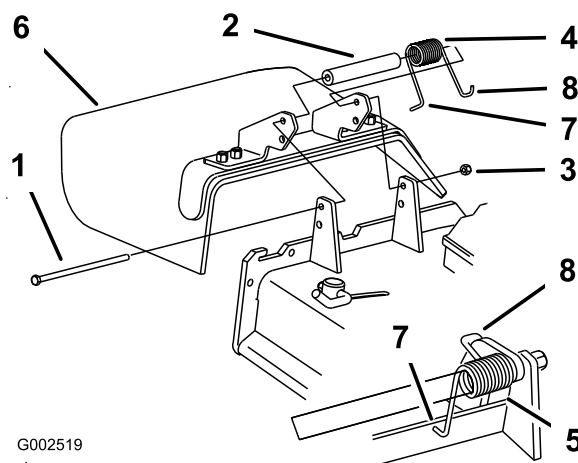

Figure 73
1. Remove the locknut, bolt, spring and spacer holding the deflector to the pivot brackets (Figure 73).
Note: Make sure the **L** end of the spring is installed behind the deck edge before installing the bolt as shown in Figure 73
5. Place the **J** hook end of the spring around the grass deflector (Figure 73).